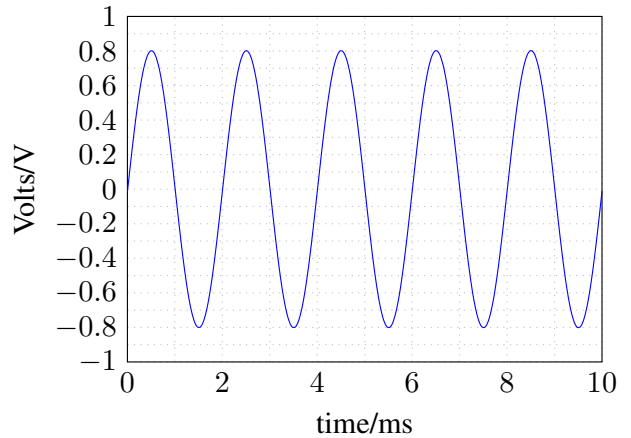

Fig. 39: 800 mV amplitude on SYNTH of the channel filter board. This is the synthesized output signal.
12. Switch the oscilloscope into AC mode. Turn the **Channel Level** potentiometer P1 fully clockwise and adjust TR1 for a signal amplitude of 800 mV on **SYNTH** (Fig. 39).